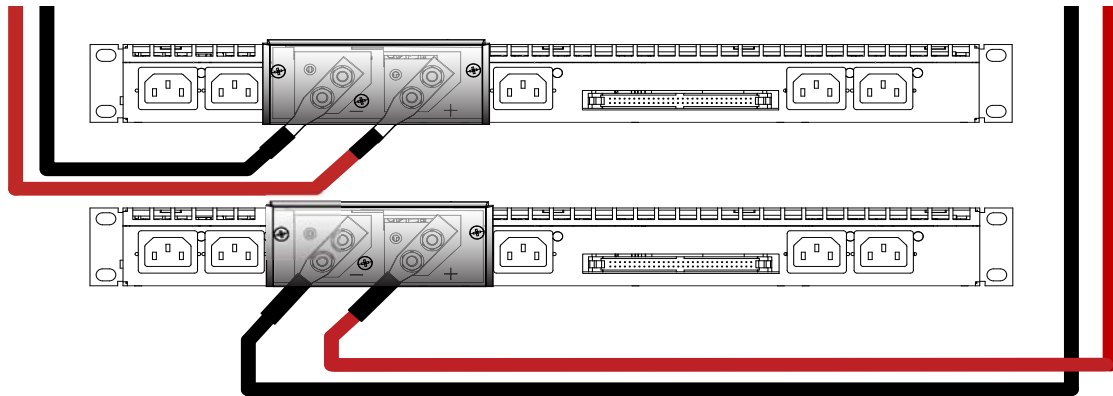

Figure 21. DC wires connected to each AC power supply
13. Place the second set of double-holed wiring pair of DC wires over the 4 (2 sets of 2) DC connectors of the second AC power supply, as seen in Figure 21 below.
The wiring will look similar to Figure 21: